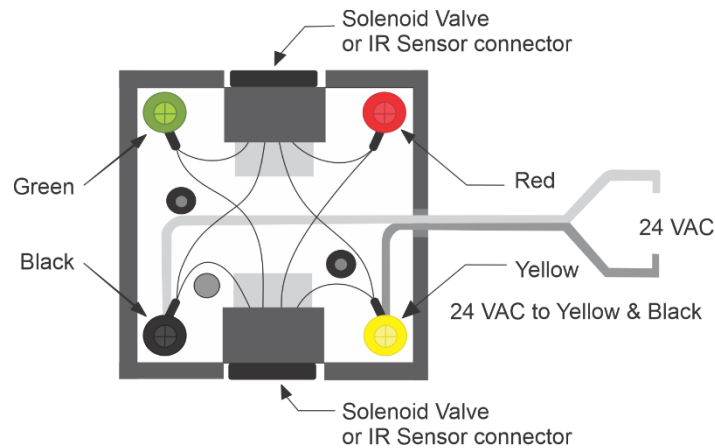

Fig. 1.41: Modular Junction Box
**Step 3: Install Modular Junction Box** (Ref. Fig. 1.41)